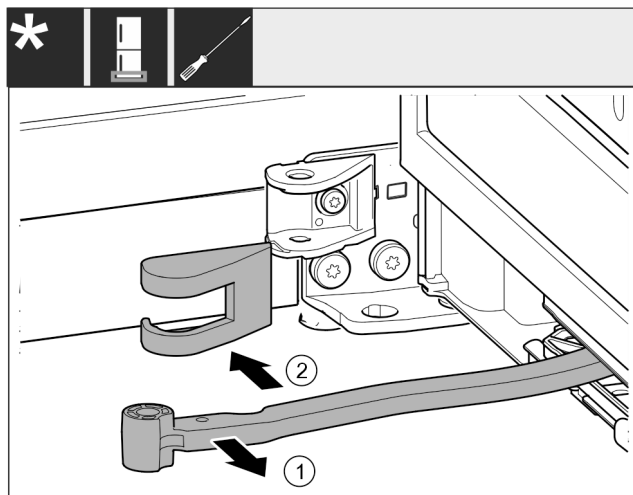

Fig. 18
- ▶ Turn the joint Fig. 18 (1) towards the door.
- ▶ Remove the swap bearing block cover Fig. 18 (2).